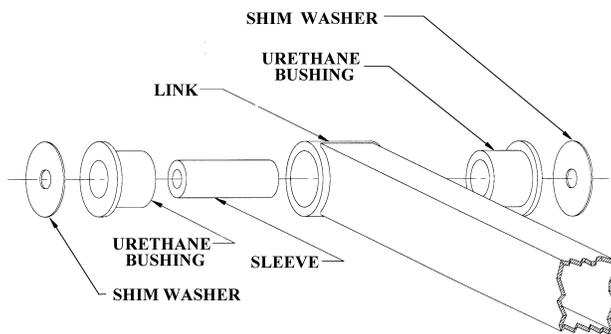

fig. 4
9. Insert two urethane bushings from bag # 860047 in each end of each # 140162 lower link. Next, press one # 420019 sleeve from bag # 860047 through the bushings on each end of the # 140162 lower links. A liberal amount of anti-seize compound will aid in the assembly and will prevent squeaking of the bushings. Refer to fig. 4
12. Insert two urethane bushings from bag # 860048 in each end of each # 140163 upper link. Next, press one # 420020 sleeve from bag # 860048 through the bushings on each end of the # 140163 upper links. A liberal amount of anti-seize compound will aid in the assembly and will prevent squeaking of the bushings. **Refer to fig. 4**
13. Install the # 140163 upper link in place of the original upper link with one shim washer from bag # 860048 on each side of the bushings at both ends. Slight prying of the mounts with a screwdriver and/or rotating the lower link cam adjusters may aid the installation. **Refer to fig. 4**